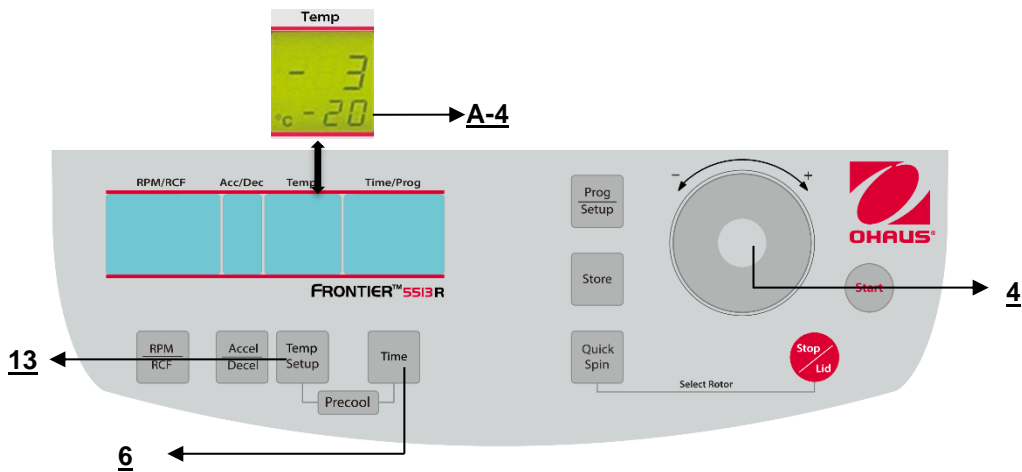

Figure. 16
The value is indicated permanently in the display (figure 16) - before, during and after the run. Please notice the respective lowest temperatures of the rotors at maximum speed!
Close the lid, then press the key **"Time"** (7) (refer to figure 16) and the key **"Prog/Setup"** (3) at the same time and hold them.